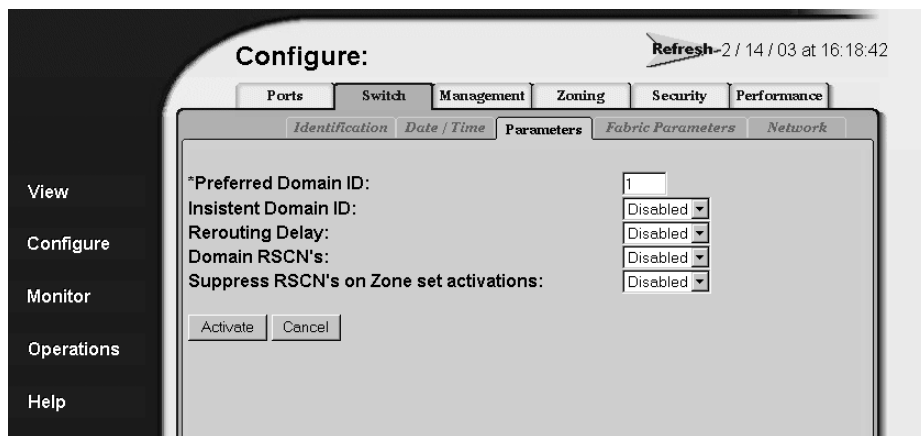

Figure 7: Configure product parameters tab view
3. Click the **Switch** or **Director** tab, as appropriate. Click the **Parameters** tab to display the **Parameters** tab view (Figure 7).